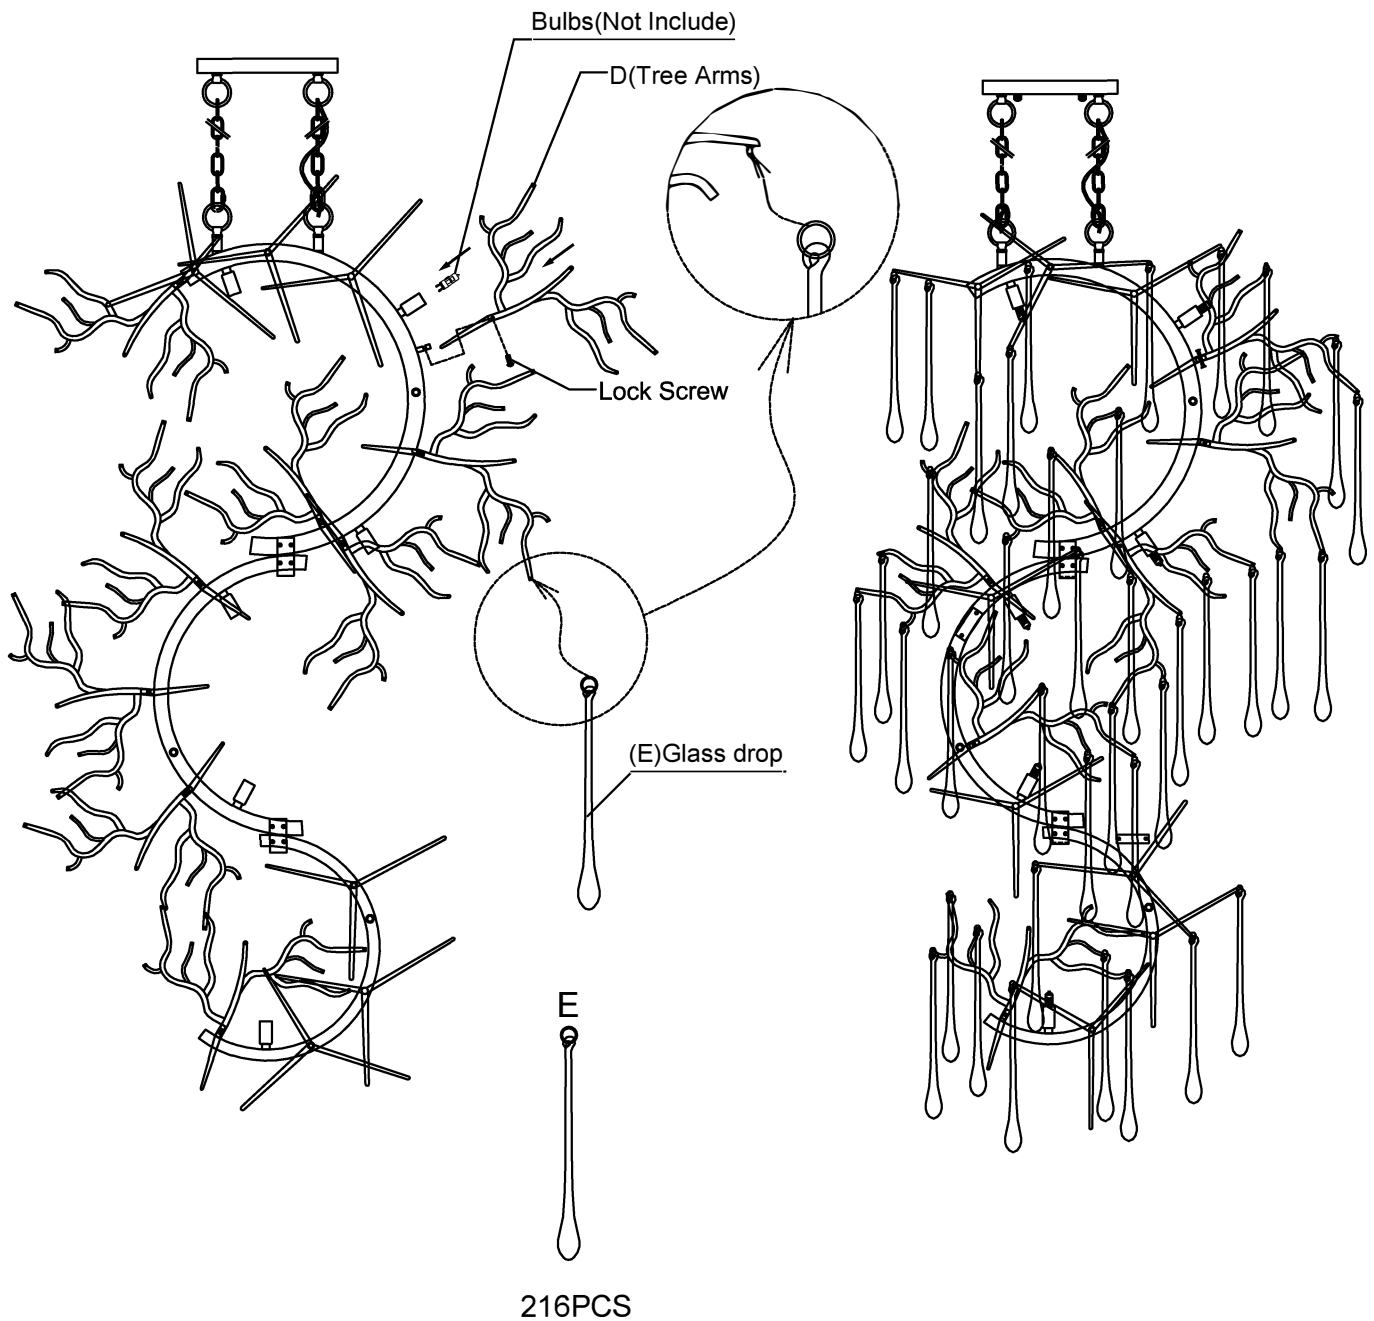

Figure 7
A. Note: Please assemble the frame ready then start to hang the drops. Once you find the tree arms overlap together like figure 7 & figure 8 , then you do not need to hang the drops on the tree arms.